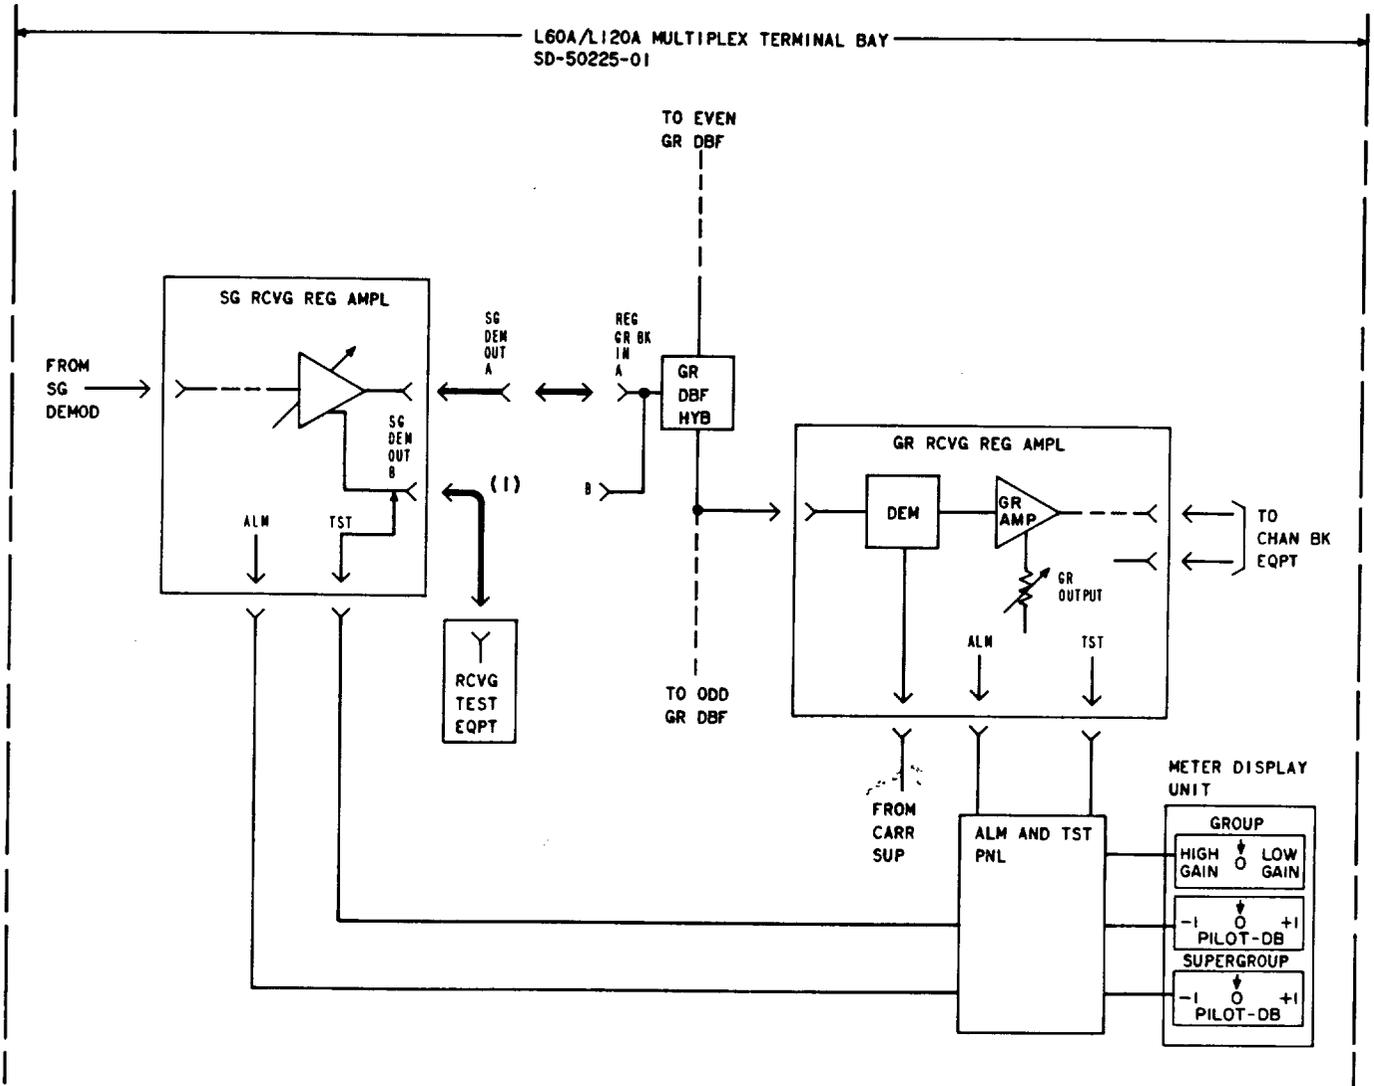

Fig. 1—L60A/L120A Multiplex Terminal Receiving Circuits—Group Demodulator In-Service Gain Adjustment
<p>Note: In these tests it is assumed that the group pilot and group gain measuring circuits meet calibration requirements. Refer to Section 356-294-501 (group pilot) and Section 356-294-502 (group gain), if necessary.</p> <p>A. Input Test</p> <p>1 Position the alarm and test panel selector switch to the supergroup and group to be tested.</p> <p>2 Read the SUPERGROUP PILOT-DB meter.</p> <p>Requirement: $\pm 0 \pm 0.1$ dB.</p> <p>3 If the requirement of Step 2 is met, proceed to Step 4. If it is not met, perform tests as prescribed in Section 356-283-501.</p> <p>B. Gain Test</p> <p>4 Read the GROUP PILOT-DB meter.</p> <p>Requirement: $\pm 0 \pm 0.1$ dB.</p> <p>5 If the requirement of Step 4 is met, proceed to Step 7. If it is not met, slowly adjust the GR OUTPUT control on the associated group regulated amplifier for a reading as close to zero as possible, but in no case outside the ± 0.1 dB limit.</p> <p>Note: Allow approximately 15 seconds after each readjustment to permit the regulator to stabilize.</p> <p>6 If the requirement of Step 4 cannot be met, remove the group demodulator under test from service and make tests as prescribed in Section 356-284-502.</p> <p>7 Read the GROUP GAIN meter.</p> <p>Requirement: ± 2 dB HIGH GAIN to 2 dB LOW GAIN.</p> <p>8 If the requirement of Step 7 is met, proceed to Step 14. If it is not met, proceed as follows for the group demodulator under test.</p> <p>Group 1: Remove the associated group receiving bank from service and make tests as prescribed in Section 356-284-502.</p> <p>Groups 2 through 5: Verify that the input pilot level requirement for the group demodulator under test is met. Proceed to Step 9.</p> <p>9 Set up and calibrate the receiving test equipment for a 75-ohm terminated measurement of -48 dBm at the input pilot frequency listed in Table A for the group demodulator circuit under test.</p> <p>10 Make patch designated (1) in Fig. 1.</p>
13	Remove patch designated (1) in Fig. 1.